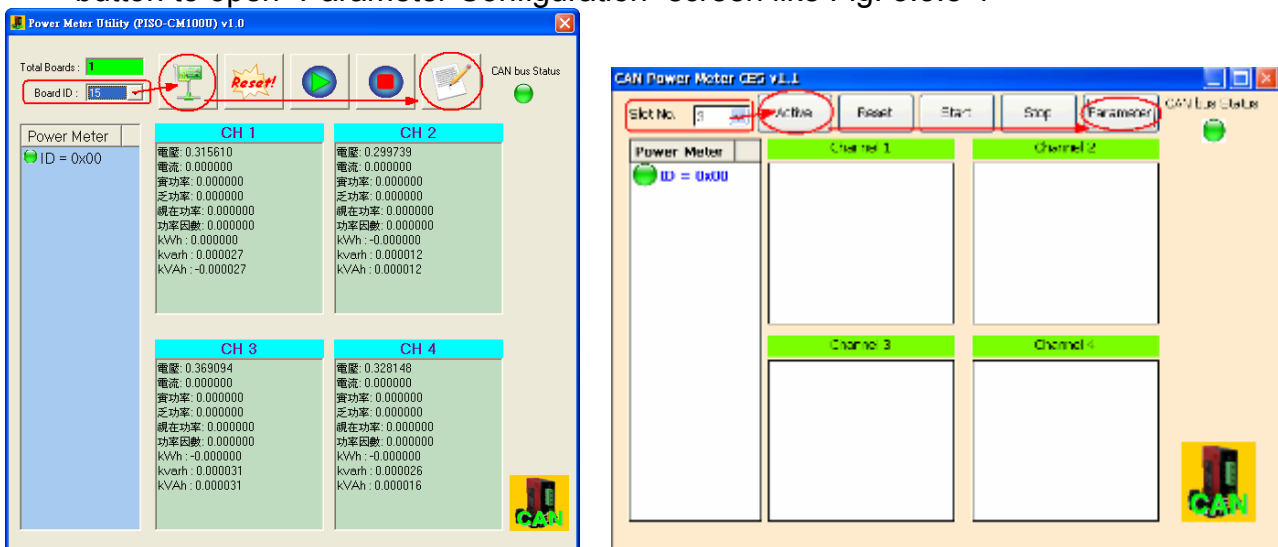

Fig. 3.3.8-1 CAN Power Meter Utility (PC & CE)
- (1) Select CAN Power Meter module.
- (2) Click “Active” button to enable CAN Power Meter module and then click “Parameter” button to open “Parameter Configuration” screen like Fig. 3.3.8-1